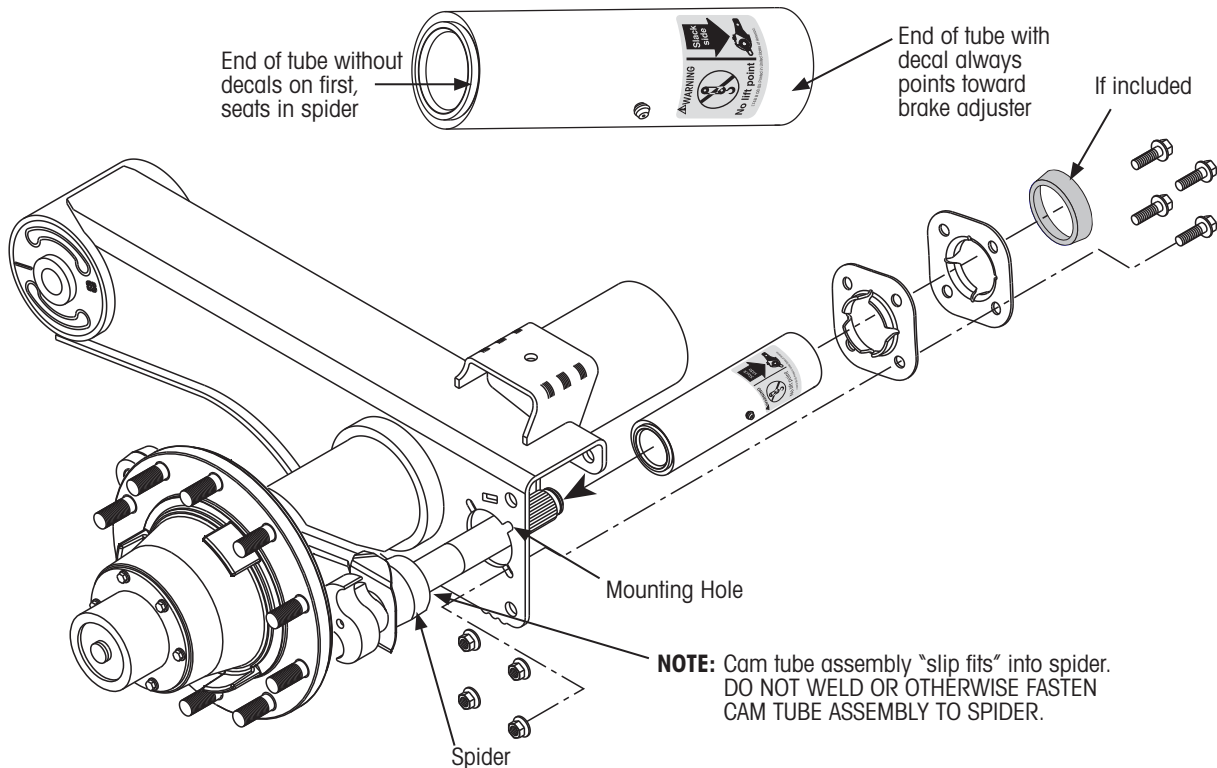

Figure 1: Cam tube assembly installation overview
3. Orient the end of the cam tube without the decal so that it goes onto the camshaft first (Figure 1). In other words, the end of the cam tube with the decal must be closest to the slack adjuster.
4. From the inboard side of the suspension beam, slide the new cam tube assembly onto the camshaft, through the mounting hole in the suspension beam and into the spider (Figure 1).